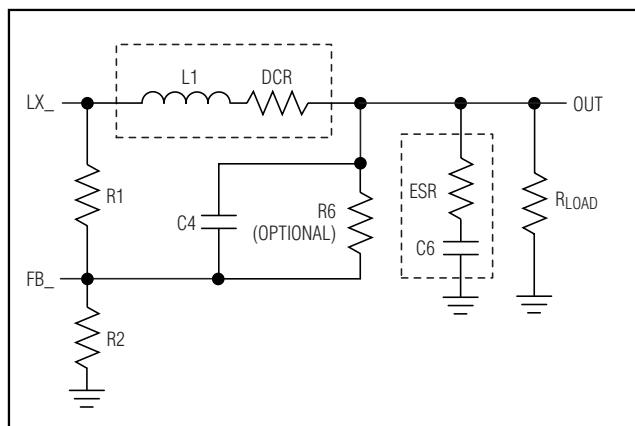

Figure 5. MAX8668 Feedback Network
The OUT1 and OUT2 output voltages of the MAX8668 are set by a resistor network connected to FB₋ as shown in Figure 5. With this configuration, a portion of the feedback signal is sensed on the switched side of the inductor (LX), and the output voltage droops slightly as the load current is increased due to the DC resistance of the inductor (DCR). This allows the load regulation to be set to match the voltage droop during a load transient (voltage positioning), reducing the peak-to-peak output-voltage deviation during a load transient, and reducing the output capacitance requirements.
To obtain less voltage positioning than described in the previous section, use the following procedure for setting the output voltages. The OUT1 and OUT2 output voltages and voltage positioning of the MAX8668 are set by a resistor network connected to FB₋ as shown in Figure 5.